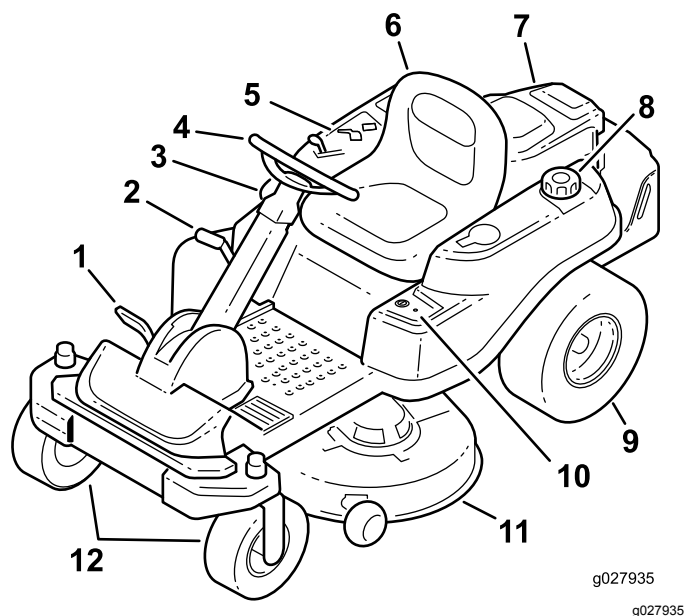
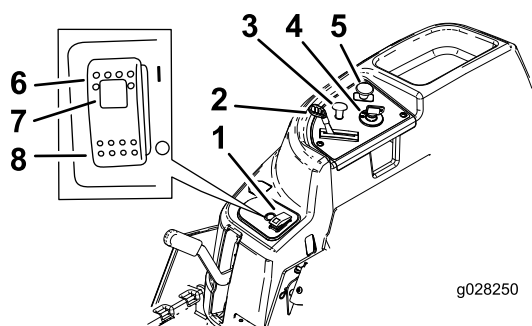
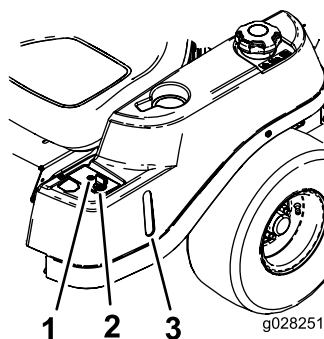

Figure 4
Figure 5
Figure 6
Become familiar with all controls in Figure 4, Figure 5, and Figure 6 before you start the engine and operate the machine.
The ignition switch has 3 positions—OFF, RUN, and START. The key turns to START and moves back to RUN upon release. Turn the key to the OFF position to shut off the engine; however, always remove the key when leaving the machine to prevent someone from accidentally starting the engine (Figure 5).
Use the choke to start a cold engine. Pull the choke knob up to engage it. Push down on the choke knob to disengage it (Figure 5).
The throttle control is variable between FAST and SLOW. Move the throttle lever forward to increase the engine speed and backward to decrease the engine speed (Figure 5).
The blade-control switch, (PTO), engages and disengages power to the mower blades (Figure 5).
Use the fuel window located on the left side of the machine to verify the presence of gasoline in the tank (Figure 6).
This switch allows you to mow in reverse when it is activated. To activate it, turn the switch to ON and release it after the PTO is engaged. To deactivate it, disengage the power takeoff (PTO) (Figure 6).
The operating-in-reverse warning light illuminates whenever the Key Choice™ key is used to deactivate the operating-in-reverse interlock. It is a reminder that the interlock system is deactivated. The light goes out whenever the PTO is disengaged or the engine is shut off. When the light is on, look behind and use extra caution when backing (Figure 6).
- Pressing the SmartPark™ switch to the ON position (Figure 5).